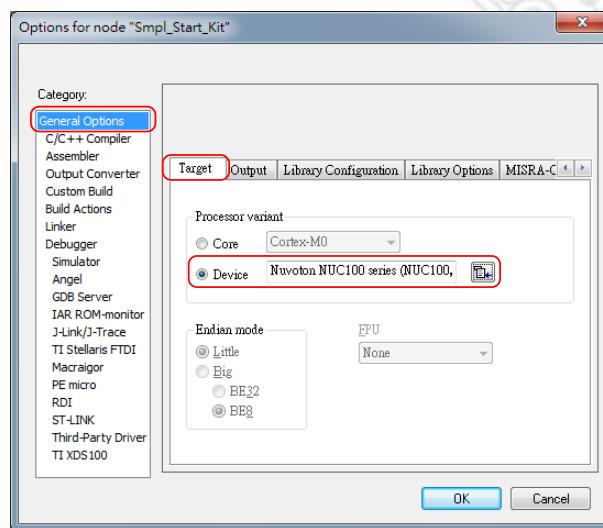

Figure 4-14 IAR EWARM Target Chip Selection
- Step 3: In the **Target** tab of the **General Options** page (through invoking **Project → Options**), click the button in the right of the **Device** option (make sure the **Device** option is enabled), and select “**Nuvoton → Nuvoton NUC100 series**” as the target chip (NUC100 series is this case), as shown in Figure 4-14.